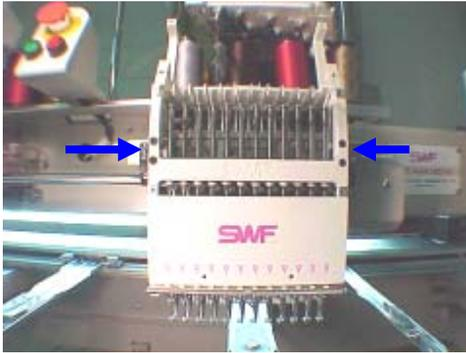

Fig. 5
1. Remove the four 3mm allen head screws that secure the needle case to the sewing head. See fig. 5.